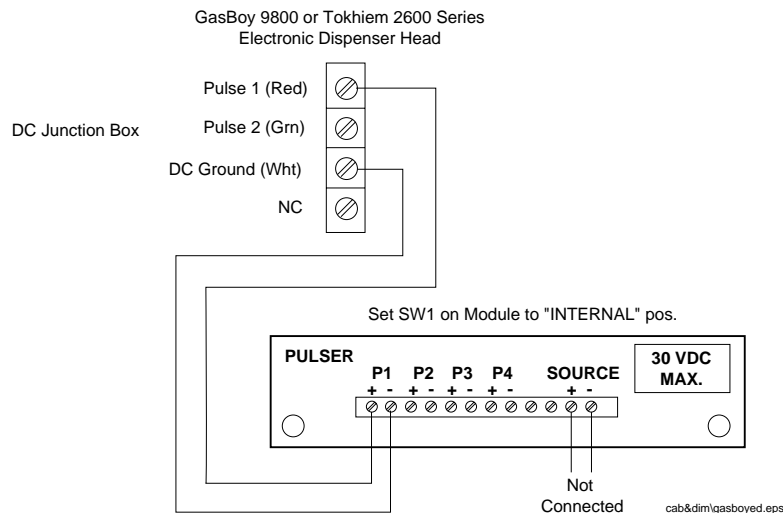

Figure 9. Installation with GasBoy 9800 Series Electronic Dispensers
2. Refer to Figure 9 below. Locate the DC Junction Box inside the Gasboy 9800 Series or Tokheim 2600 Series electronic dispensers.